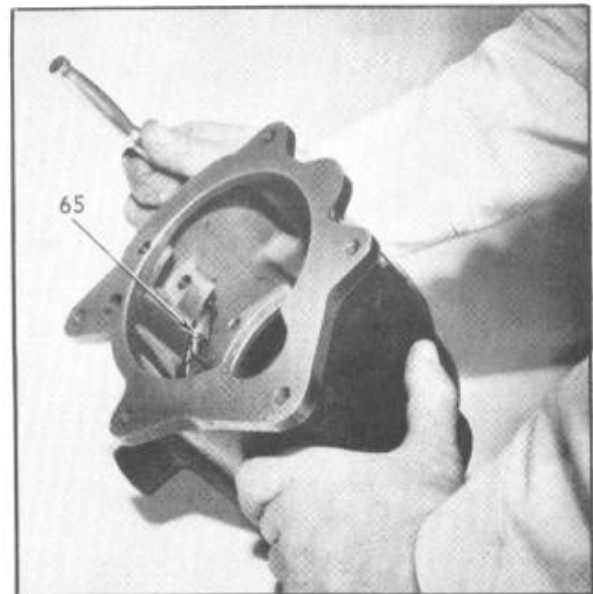

Figure 29--Removing Shifter Head Screw
9. Remove shifter head screw (65), Figure 29, and lock washer with socket wrench through inspection hole.
1. Install control shaft, felt washer and lock screw in right side of case reversing operation (10 and 11), Figure 29.
3. Install shifter head (67) in case and engage on control shaft.
4. Install shifter rail (20) in case, line up poppet spring ball recess with hole in case and press rail through shifter shaft, Cu washer to engage it in lower groove.
5. Install shifter rail fork screw (65) and lock washer through inspection hole and tighten securely.
6. Install control lever, washers and lever nut and tighten securely reversing operation (8 and 9), Figure 29.